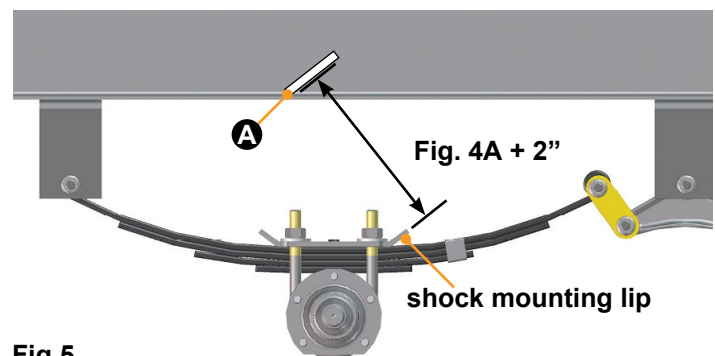

Fig.5
7. Make a measurement perpendicular to the shock mounting lip on the tie plate (**Fig.5**) that is the same distance measured in step 5 (**Fig.4A**), then add 2" and make a mark on the I-beam parallel to the shock mounting lip on the tie plate (**Fig. 5A**).